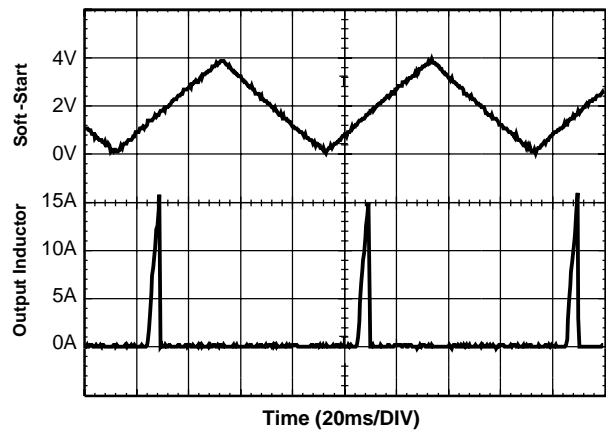

Figure 2. Over-Current Operation
The over-current function protects the converter from a shorted output by using the upper MOSFET's on-resistance, RDS(ON) to monitor the current. This method enhances the converter's efficiency and reduces cost by eliminating a current sensing resistor. The over-current function cycles the soft-start function in a hiccup mode to provide fault protection. A resistor (ROCSET) programs the over-current trip level. An internal 200μA current sink develops a voltage across ROCSET that is referenced to VIN. When the voltage across the upper MOSFET (also referenced to VIN) exceeds the voltage across ROCSET, the over-current function initiates a soft-start sequence. The soft-start function discharges CSS with a 10μA current sink and inhibits PWM operation. The soft-start function recharges CSS, and PWM operation resumes with the error amplifier clamped to the SS voltage. Should an overload occur while recharging CSS, the soft start function inhibits PWM operation while fully charging CSS to 4V to complete its cycle. Figure 2 shows this operation with an overload condition. Note that the inductor current increases to over 15A during the CSS charging interval and causes an over-current trip. The converter dissipates very little power with this method. The measured input power for the conditions of Figure 2 is 2.5W.